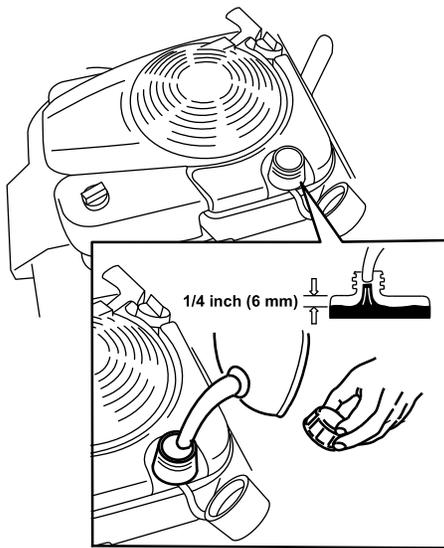

Figure 11
1. Clean around the fuel-tank cap, and remove the cap from the tank (Figure 11).